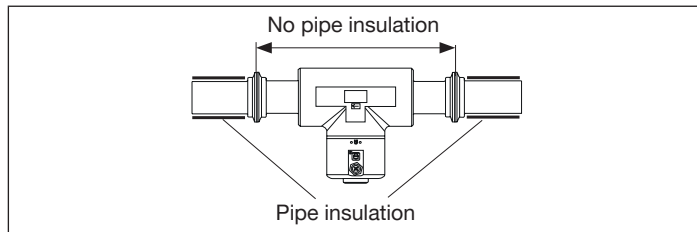
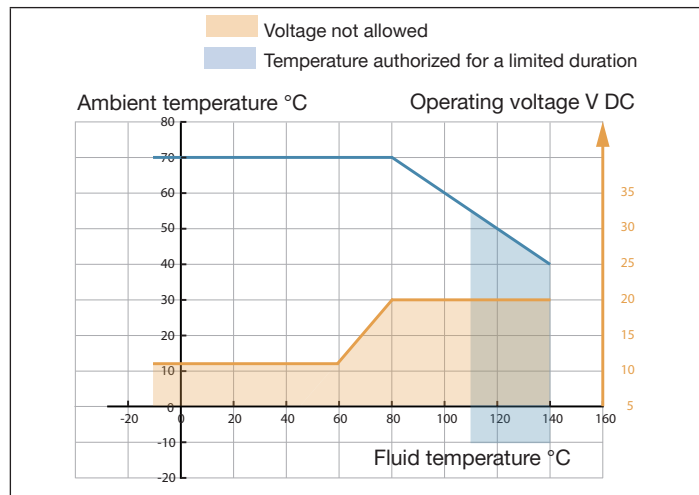

Fig. 10: Thermal insulation of the pipe
Fig. 13: Minimum supply voltage depending on the ambient temperature and the fluid temperature
- If the pipe is fitted with a thermal insulation, do not thermally insulate the measurement tube of the device to make sure that the temperature in the device is less than 70°. Refer to “Fig. 10” and “Fig. 13” for the minimum supply voltage.
- Observe minimum supply voltage, see “Fig. 13”.